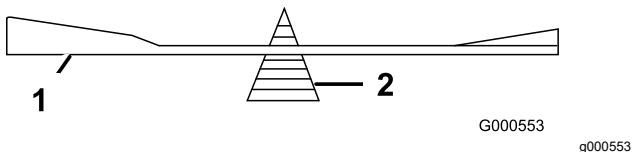

Figure 63
- 2. Check the balance of the blade by putting it on a blade balancer (Figure 63).